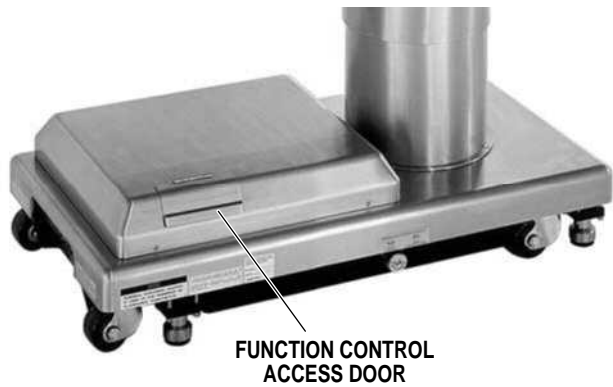

Figure 3-12. Emergency Controls Location
a. The emergency back-up control switches are located under the access door on the service access cover in the table base. See figure 3-12.